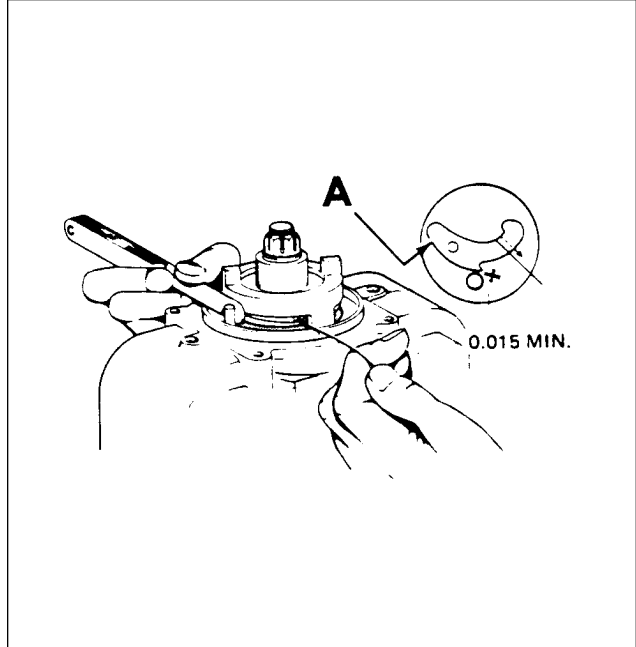

Figure 74-11. Checking Flyweight to Stop Pin Clearance
- b. Hold magneto as shown in figure 74-11. Pull heel of flyweight outward with fabricated hooked wire and make certain that a feeler gauge of 0.015 of an inch minimum thickness will pass between stop pin and highest point of flyweight.
A true and accurate check of clearance between flyweights and stop pins can only be obtained by pulling flyweight outward as described. Do not attempt the check by pushing in on the flyweight at point A of figure 74-11.